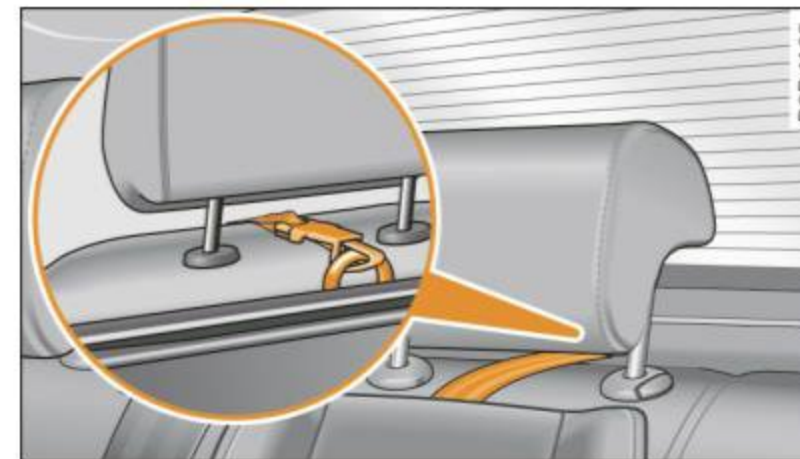

Fig. 177 Tether strap: proper routing and mounting
- Guide the upper tether strap **under** the rear head restraint ⇒ *page 211, fig. 177* (raise the head restraint if necessary).
- Tilt the recess flap -detail view- ⇒ *page 211, fig. 177* up to expose the anchor bracket.